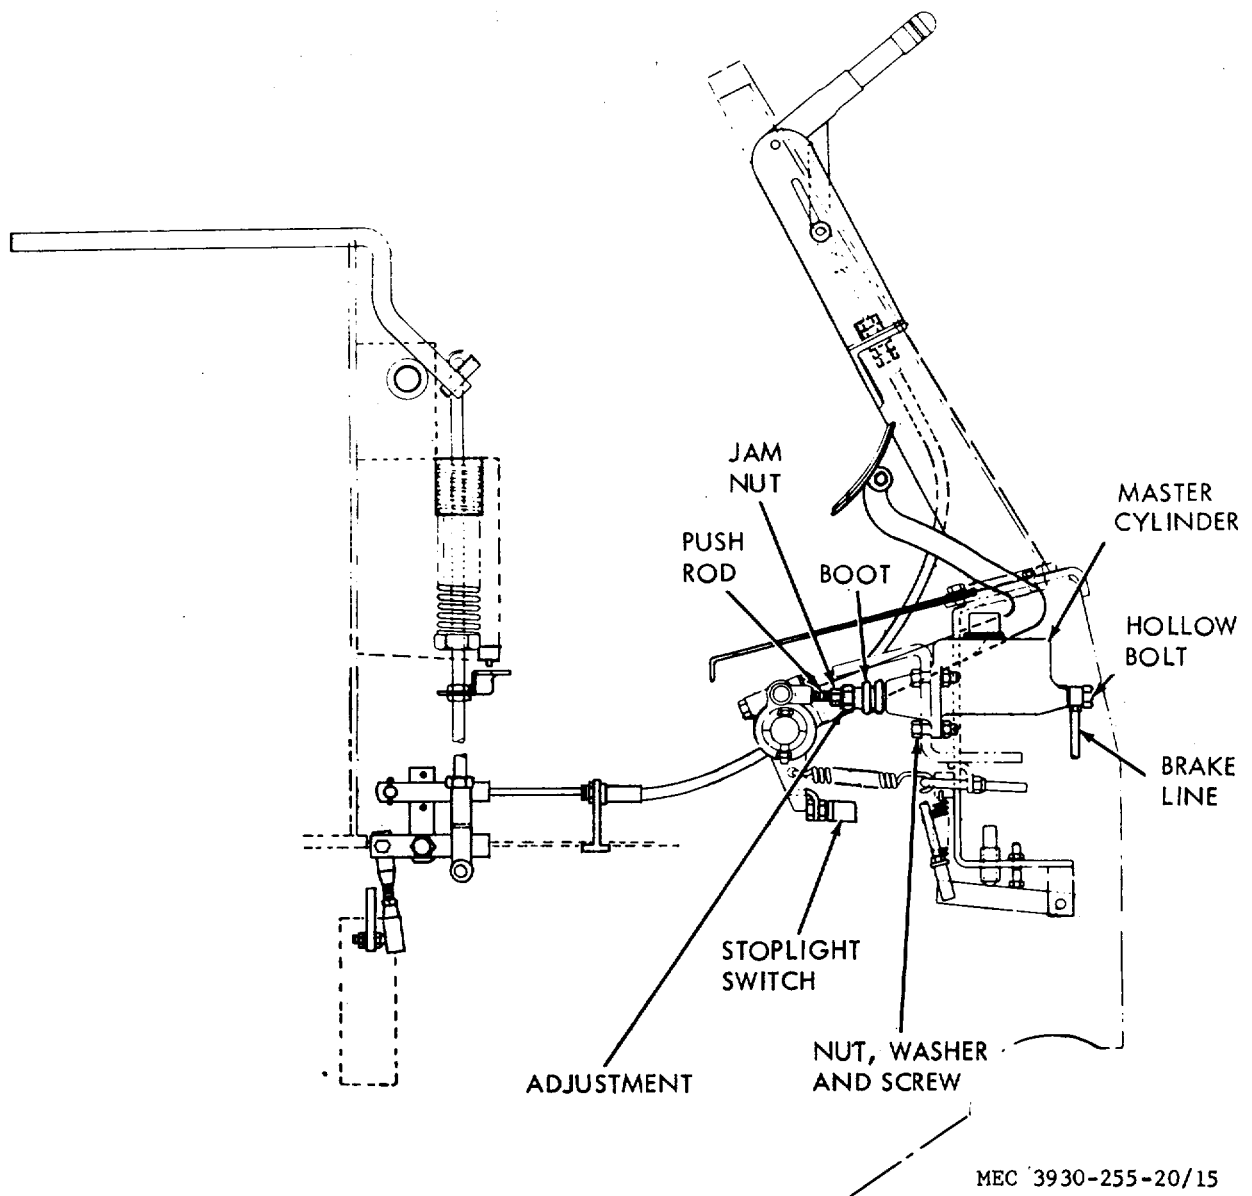

Figure 15. Master cylinder.
- (1) Remove floor plate (para 50).
- (2) Remove hollow bolt (fig. 15) and brake line fitting from front of master cylinder. Take precautions to keep dirt from entering brake line.
- (3) Remove nuts, washers, and screws attaching master cylinder to truck, and remove master cylinder. Push rod will remain connected to brake shaft and need not be removed.